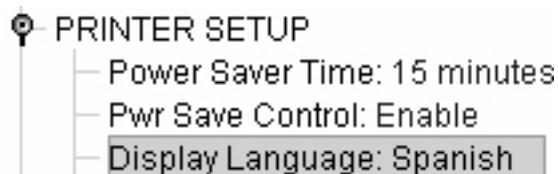

Figure 53. Toggling Through The Available Options
4. Double-click an item to open the Menu Editor (page 70) for that item, or use the < and > keys to toggle through the available options. See Figure 53. (You may change these keys in the printer database window: select **File ▶ Preferences**, then click the **Configuration Editor** tab. See page 27.)